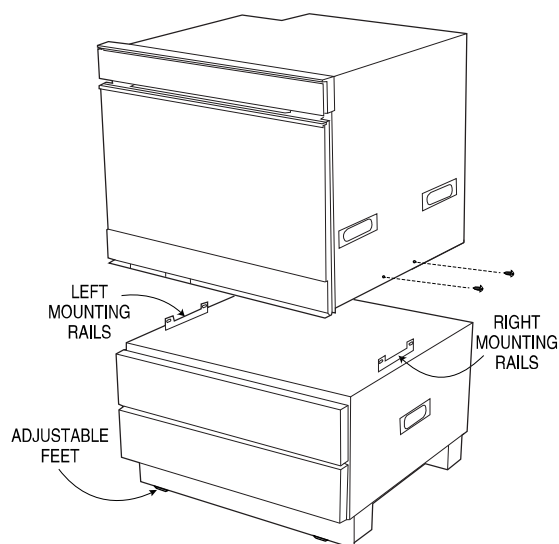

FIGURE 2A
2. **Convection Microwave Drawer** - Place the oven on a secure surface. Remove the 4 bottom screws (2 on each side of the oven) as shown in Figure 2A. Carefully place the oven on top of the pedestal in-between the mounting rails on the left and right.